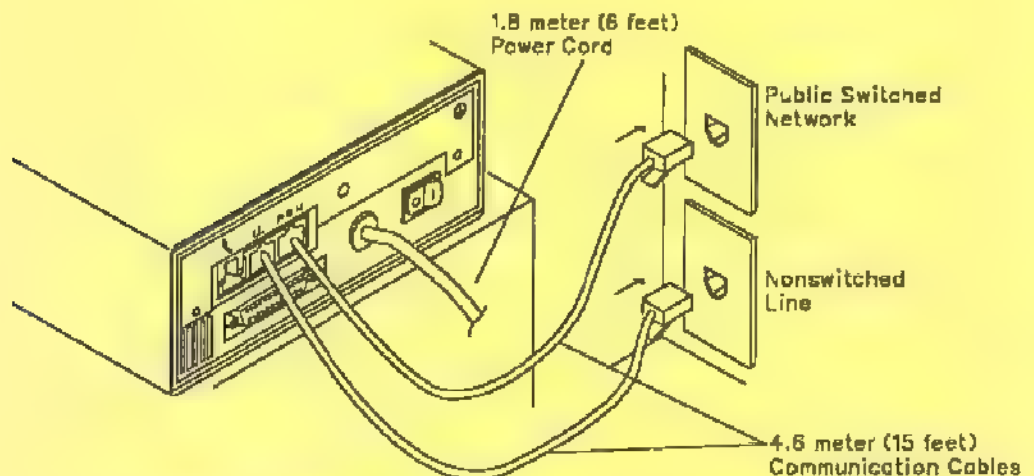

Figure 4-2. Installing Telecommunication Line Cables. Your modem's rear panel may have the PSTN and LL connectors located differently from those shown.
**Step 2** If you are going to use a switched network telecommunication cable, plug it into the 8-pin *PSTN* or *PSN* jack located on the modem's rear panel. If this modem is **not** being installed in the United Kingdom, connect the other end of the cable to the telecommunication line. See Figure 4-2.
**Step 3** If you plan to use a nonswitched line telecommunication cable, plug it into the 8-pin *LL* jack located on the modem's rear panel. If this modem is **not** being installed in the United Kingdom, connect the other end of the cable to the telecommunication line. See Figure 4-2.